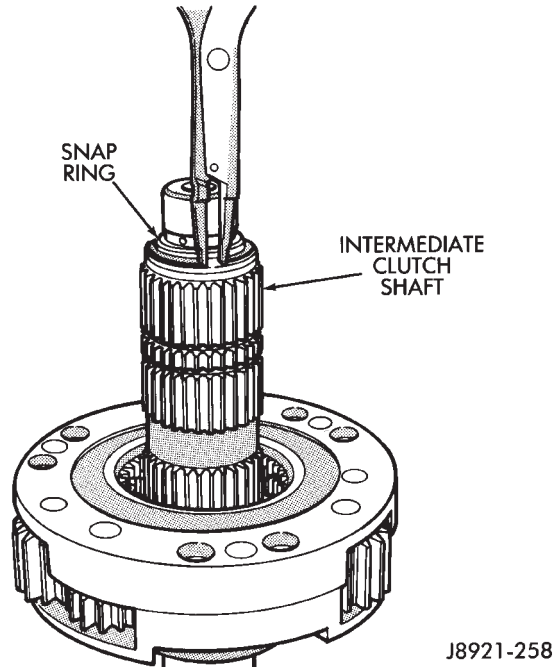

Fig. 76 Installing Clutch Shaft Snap-Ring
- (13) Install clutch shaft snap-ring (Fig. 76).